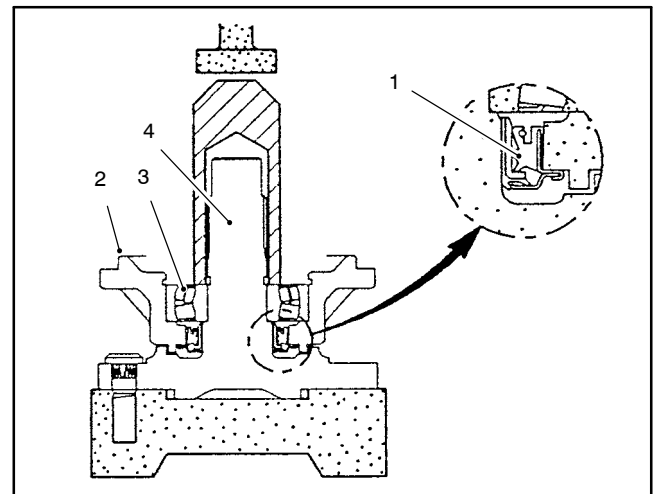

Figure 25
1. Coat new axle shaft seal with grease and install in axle cover as shown (Fig. 25).
2. Press the axle cover and bearing assembly onto the axle shaft. Press only on the inner race of the cover bearing (Fig. 25).